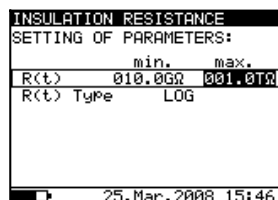

Fig. 13 Set-up menu of the Graph R(t)
- Press the SELECT key to Set-up the parameters of the graph R(t), see the **Fig. 13**. Press the ESC key to return to basic Set-up menu in the Insulation Resistance function.